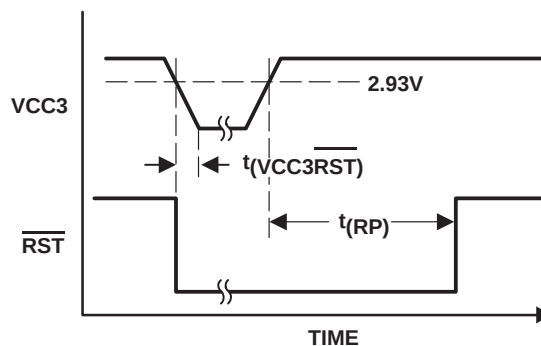

Figure 18. VCC3 to $\overline{\text{RST}}$ Timing
When a particular power supply voltage falls below a threshold of 2.93V (max), the associated reset output is asserted low for at least 140 ms after the power supply voltage has risen above the threshold (see Figure 18 and Figure 20). The reset outputs are a logic 0 for V_{CC} (VCC3 or VCC3AUX) > 1 V.
- Figure 18 shows $\overline{\text{RST}}$ output behavior according to the voltage seen at the VCC3 terminal.